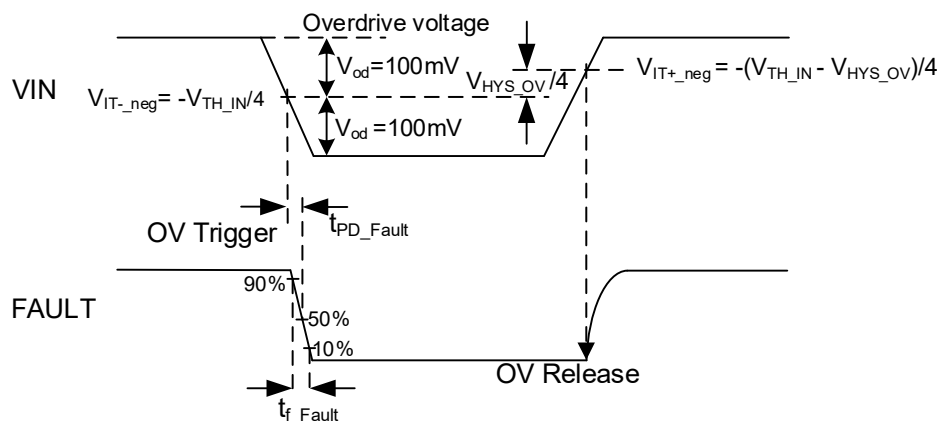

Figure 6.2 Propagation Delay and Output Fall Time Definition for Protection Comparator
- (1) The temperature drift is calculated within the whole temperature range (-40°C to 125°C).
- (2) Input referred.
- (3) THD is defined as the ratio of the sum of the rms value of first five higher harmonics to the amplitude of the fundamental (input referred).
- (4) V_{IT+_pos} is the positive-going trip threshold (refer to input voltage) for positive trip threshold, V_{IT-_pos} is the negative-going trip threshold (refer to input voltage) for positive trip threshold, refer to Figure 6.2.
- (5) V_{IT-_neg} is the negative-going trip threshold (refer to input voltage) for negative trip threshold, V_{IT+_neg} is the positive-going trip threshold (refer to input voltage) for negative trip threshold, refer to Figure 6.2.